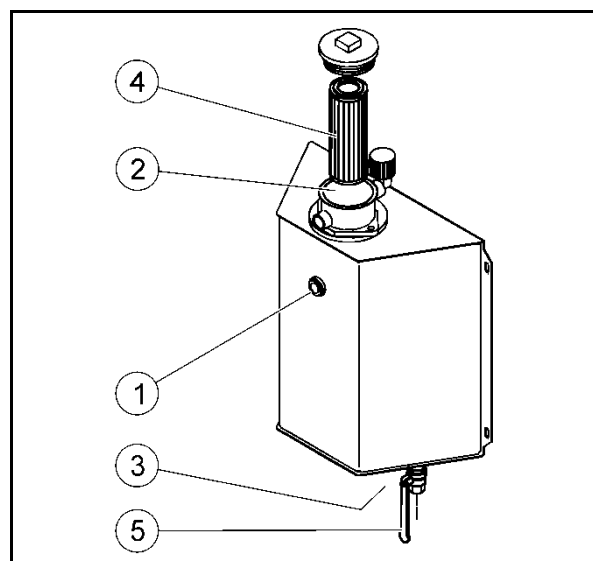

Fig. 64
Ensure that the stop valve (5) is open before each start-up. Fig. 64 shows the open stop valve (5).